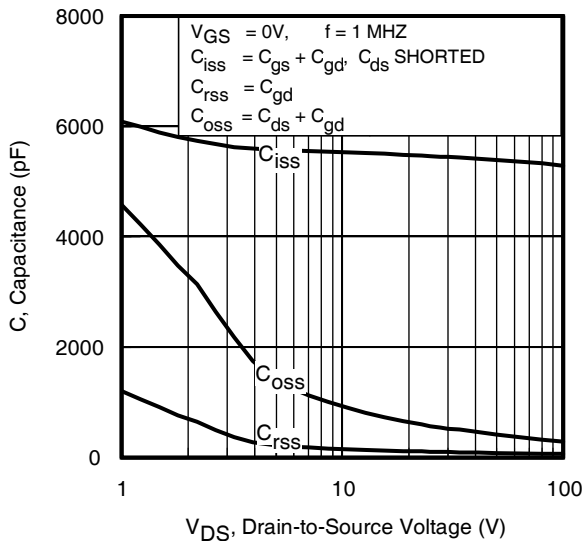
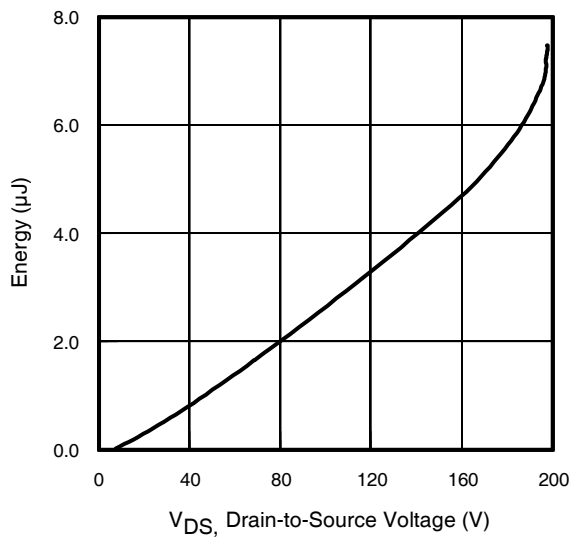

Fig 5. Typical Capacitance vs. Drain-to-Source Voltage
Fig 11. Typical C_{OSS} Stored Energy
| C _{iss} | Input Capacitance | — | 5380 | — | pF | V _{GS} = 0V V _{DS} = 50V f = 1.0MHz (See Fig.5) V _{GS} = 0V, V _{DS} = 0V to 160V ⑥(See Fig.11) V _{GS} = 0V, V _{DS} = 0V to 160V ⑤ |